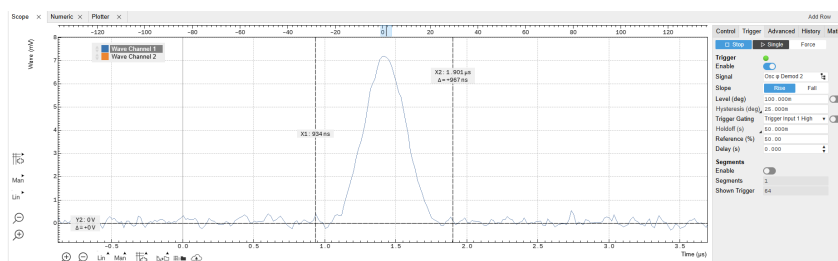
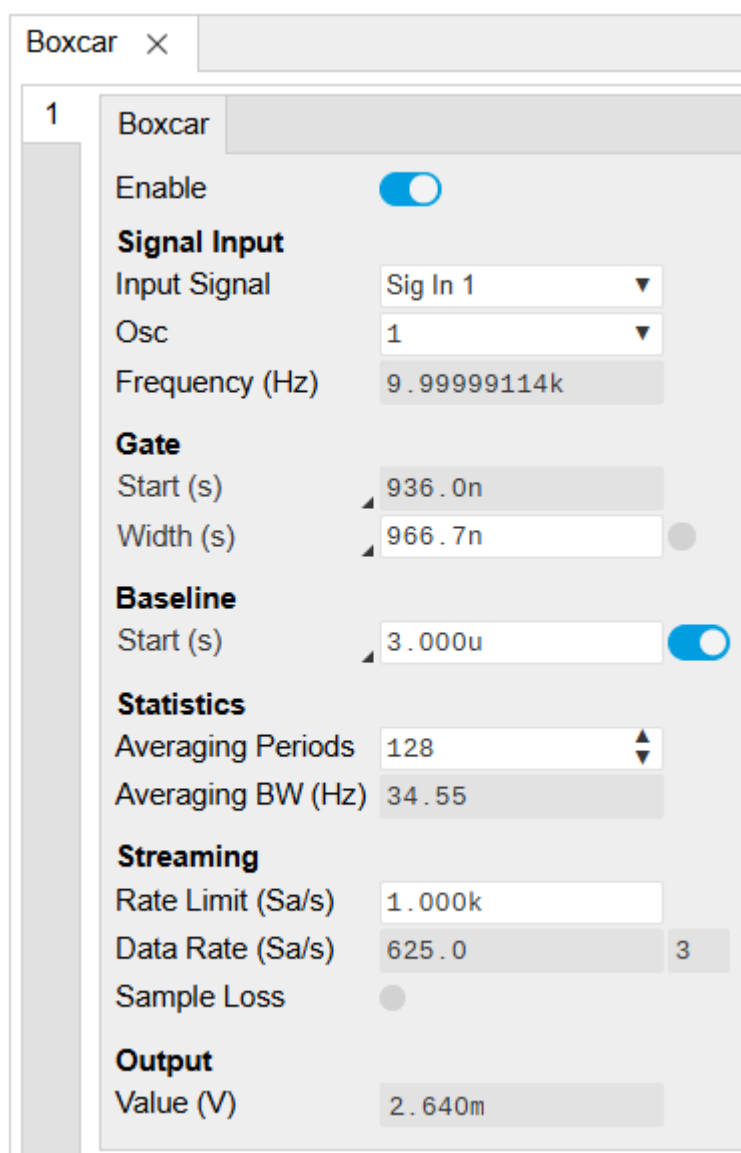

Figure 4.42: Zoom-in of a scope shot with a single pulse
Figure 4.43: Boxcar tab configuration with the Scope
The LabOne Scope on the MFLI can be used to observe the generated pulsed waveform. Connect the output of the AWG directly to Voltage Input of the MFLI instrument. The Scope settings in LabOne are given in the table below and shown in Figure 4.42. Additionally, the AWG provides a TTL synchronization signal to be connected to one of the Trigger Inputs (back panel). This trigger signal is used as an external reference to lock to the repetition rate of the pulse train.
On the Scope plotting area, one should now be able to observe a waveform similar to the one in Figure 4.42. The Scope is set to self trigger at every cycle of the oscillator phase. Use the horizontal zoom to focus on a single period. This can be done by rolling the mouse wheel forward to zoom in the horizontal axis. To zoom in on the vertical axis, press down the Shift key and roll the mouse wheel. One can also recenter the waveform by pressing on the left mouse button and dragging the Scope plot area. In cases where the noise doesn't allow to resolve the pulses properly, the averaging function of the Scope can be used to improve the sharpness.
Figure 4.43 shows the LabOne Boxcar tab. Either the Current Input or the Voltage Input can be selected as the input signal; the boxcar averager integrates and normalizes a section of the input signal and generates an output signal in units of volt (V) or ampere (A). In this example, we will use the Voltage Input. The amplitude value of each sample within the integration window is summed and output from the Adder after each period. This sum is then normalized by the Boxcar window's width. The integration window must be set manually in the Start (deg or s) and Width (deg or s) fields. Additionally, a reference oscillator must be chosen; here, we utilize the oscillator 1 locked to the external reference. The position and width of the integration window can be manually set. To determine the desired values, two possible workflows can be employed: using the Scope or the Sweeper. To further increase the SNR, a moving average filter can be applied to the boxcar output. To do so, one can increase the number of averaging periods. The number of averaging periods indicates how many subsequent periods the integrated values are averaged before outputting the final result. If the averaging periods are set to 1, each consecutive integrated value is output. Increasing the number averaged periods has the effect of improving the SNR at the cost of measurement time, since a longer time is necessary before the result is calculated - similar to the compromise between measurement speed and noise rejection when setting a certain low-pass
The configuration of the Boxcar averager with the Scope can be very convenient, especially in cases where the amplitude of the pulse train is well above the noise floor. For the configuration of the Start and Width with the Scope, we set the units to seconds (s) in the boxcar tab. We then record a Scope shot with the Scope tab, making sure that the scope is set to Trigger to the correct Oscillator phase, in our case Osc ϕ Demod 2. By zooming in around the pulse closest to the time 0 of the Scope time axis in the positive times region, we can then move the vertical cursors and set them around the pulse, copying the displayed values to the Start (first cursor) and Width (Δ) settings in the Boxcar Tab. This setup is shown in Figure 4.42, with the corresponding boxcar settings in Figure 4.43. By enabling the Boxcar, the data is now streamed to the computer.